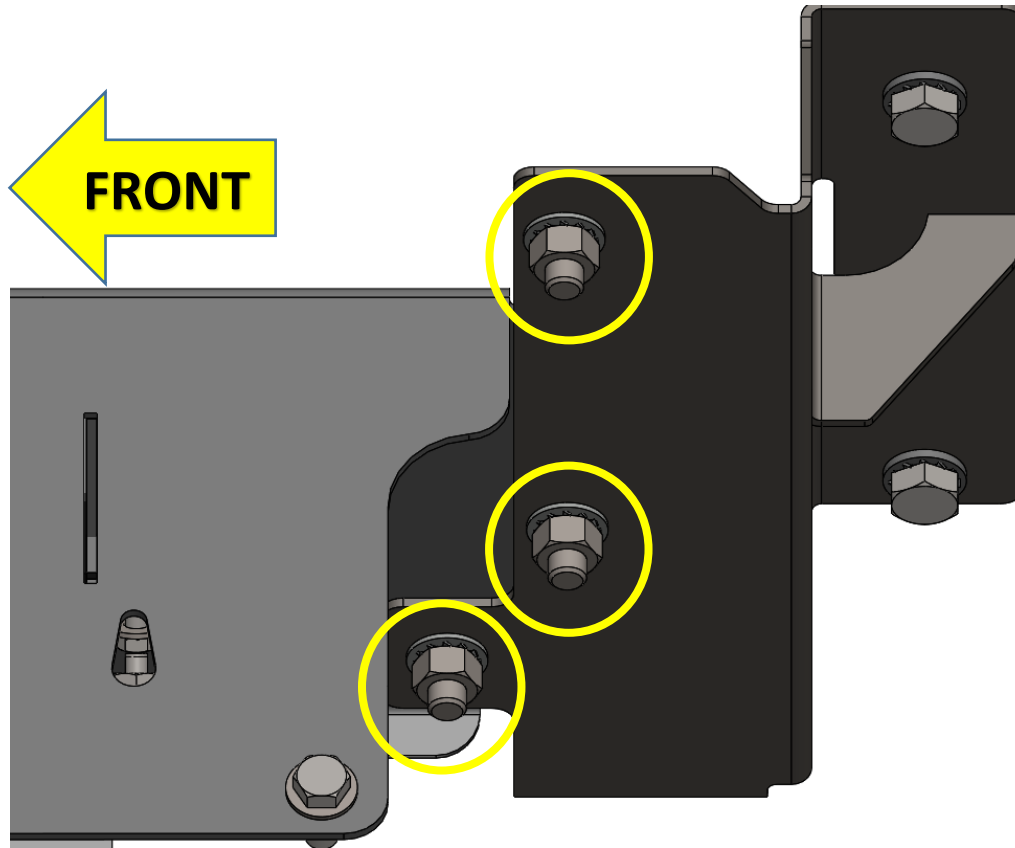
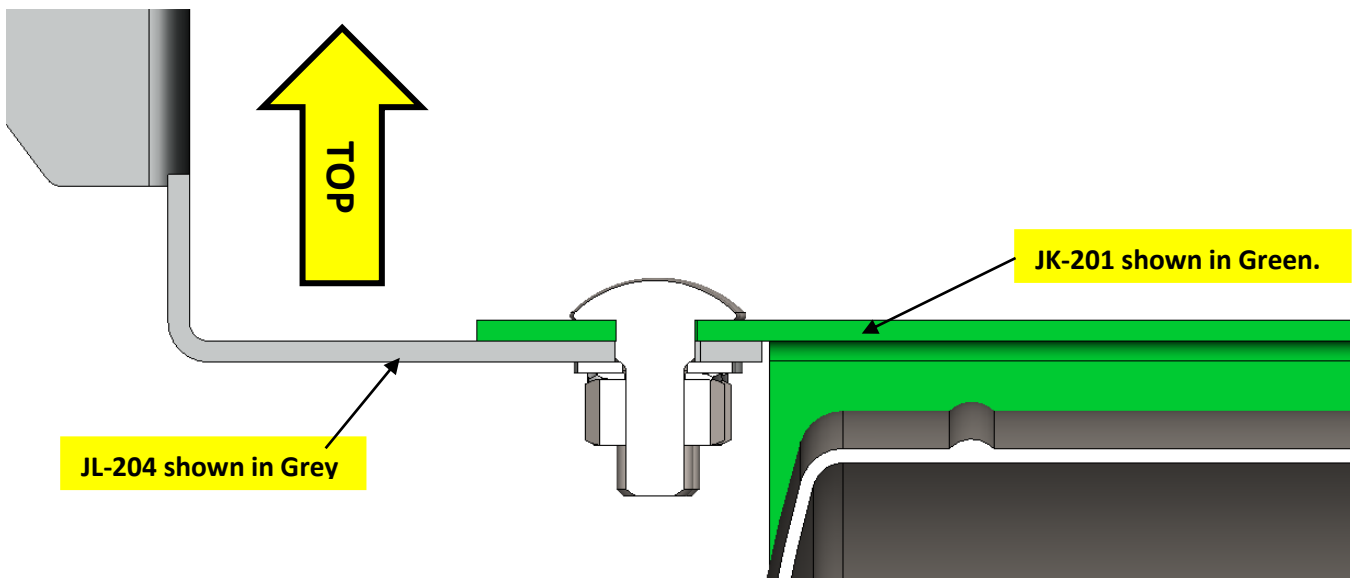

Figure 16 - JK-201 & JL-204 Hardware Attached
Figure 17 - JK-201 & JL-204 Section View with Hardware Stack Up
- 10.3.2. Install JK-201 on top of JL-204 and align holes “A”, as shown circled in Figure 15, Figure 16, and Figure 17 below.
10.3.5. Secure JK-201 & JL-204 with hardware #10, #14, & #20, as shown in Figure 16. Hand tighten fasteners.